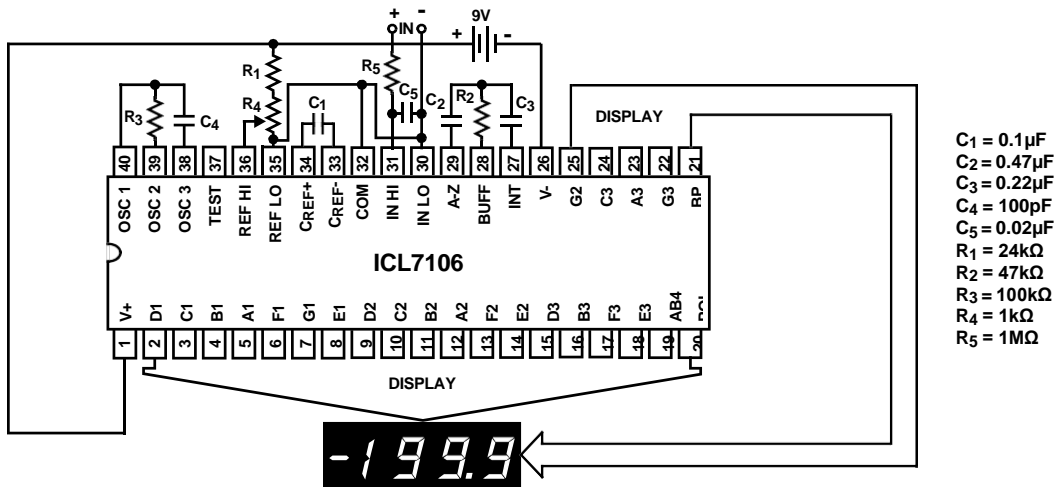

FIGURE 1. ICL7106 TEST CIRCUIT AND TYPICAL APPLICATION WITH LCD DISPLAY COMPONENTS SELECTED FOR 200mV FULL SCALE
- Unless otherwise noted, specifications apply to both the ICL7106 and ICL7107 at TA = +25 °C, fCLK = 48kHz. ICL7106 is tested in the circuit of Figure 1. ICL7107 is tested in the circuit of Figure 2.